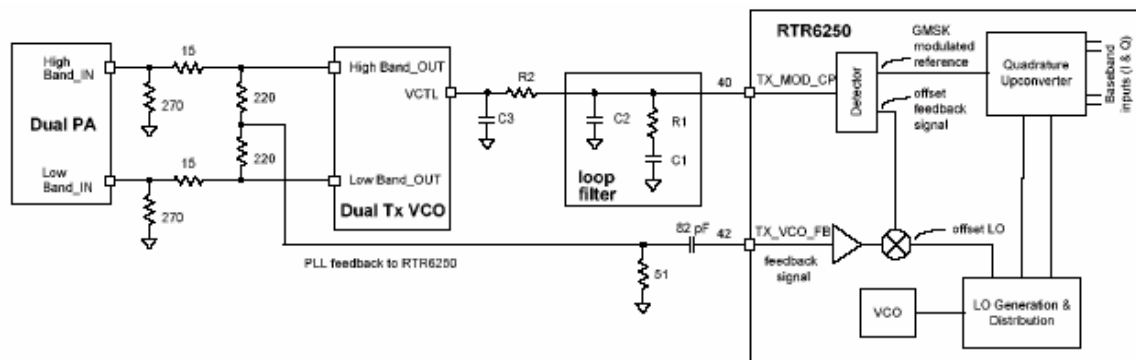

Figure 3.2.2-1 Offset phase-locked loop interfaces
The shared GSM Low-band (GSM850/GSM900) and High-band (DCS1800, PCS1900) transmit path begins with the baseband inputs from the MSM6275 IC. These differential analog input signals are buffered, lowpass filtered, corrected for DC offsets then applied to the GSM quadrature upconverter. The upconverter LO signals are generated from the transceiver VCO signal by the LO distribution and generation circuits within RTR6250. This upconverter translates the GMSK or 8-PSK-modulated signal to a convenient intermediate frequency (IF) that forms one input to a frequency/phase detector circuit. This IF signal is the reference input to an offset phase-locked loop (OPLL) circuit as shown in Figure 3.2.2-1.